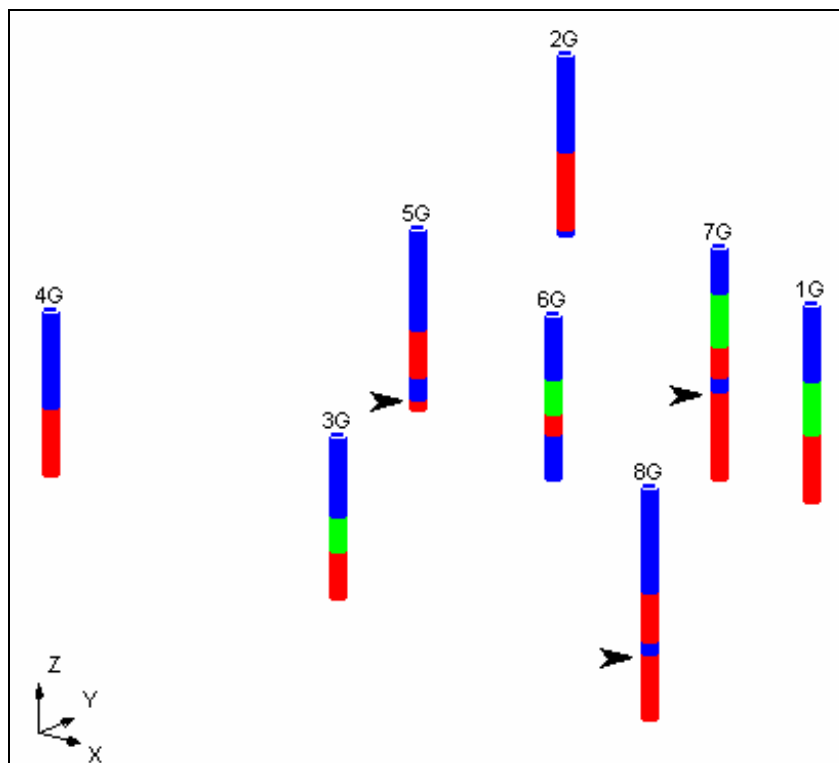

Figure 8.1 Contacts for Horizon 1.
1. Select the top of the lower red material on hole 8G as shown in Figure 8.1 above.